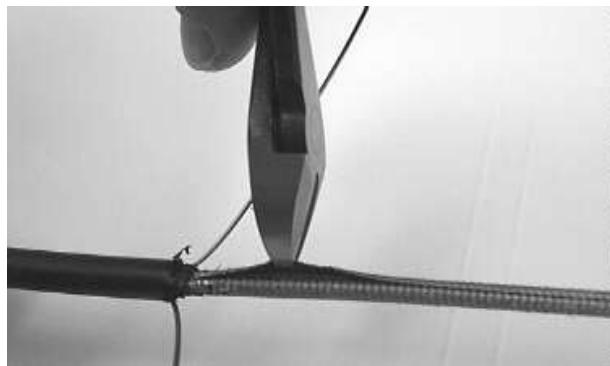

Figure 6 - Snip the armor.
4.7 Consult the splice closure instructions for the armor length required for bonding. Mark and snip the armor as required (Figure 6).